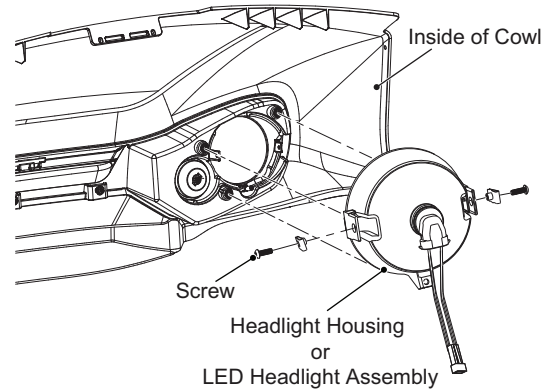

Fig. 8 Halogen Bulb
1. Disconnect the main harness from the headlight bulb (Ref Fig. 8).